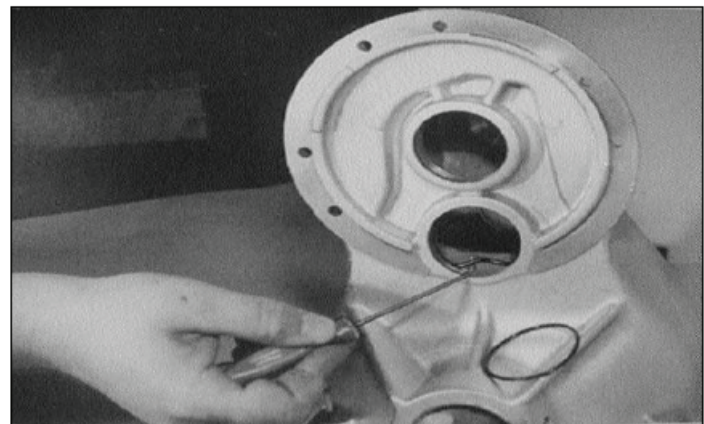

Figure 7-23. Removing O-rings
19. Remove O-rings from outer input bearing bore and both intermediate bores (Figure 7-23).
5. Install outer snap ring (16) at input shaft bore. See Figure 7-23.